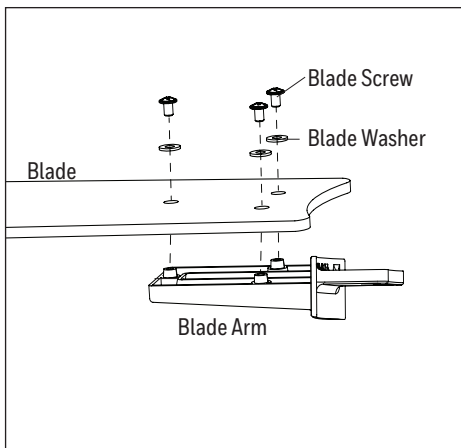

Figure 5.4
- Partially insert the blade screws along with the blade washers through the blade and into the blade arm. Tighten each blade screw with a Phillips screwdriver (not included), starting with the one in the middle. Repeat this step for the remaining blades and blade arms (Figure 5.4).